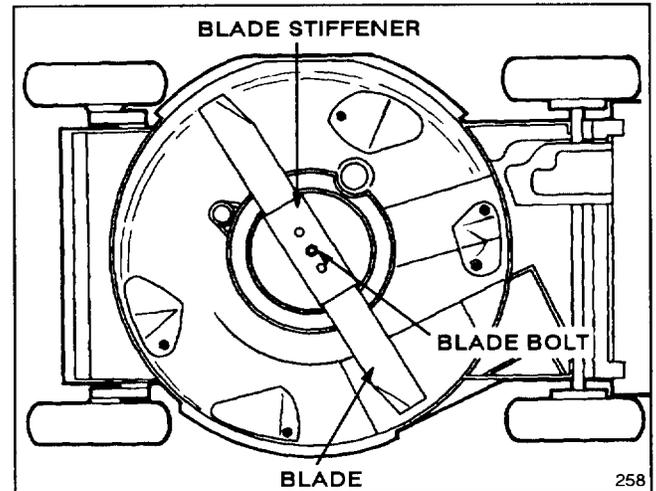

Figure 19
3. Tip mower on its right side (Fig. 19). Avoid rotating the blade because starting problems may result.
5. REMOVING BLADE—Grasp end of blade using a rag or thickly padded glove. Remove blade bolt, lockwasher, blade stiffener, and blade (Fig. 19).